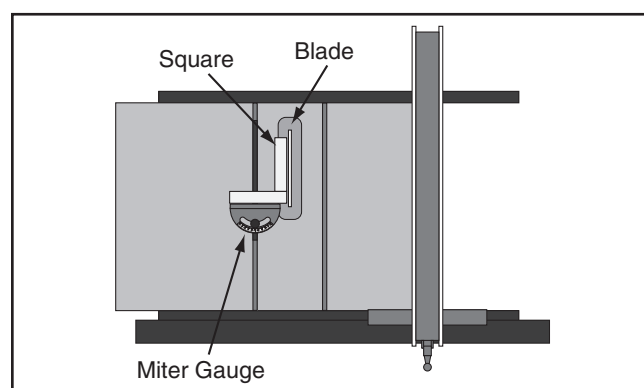

Figure 129. Miter body square to blade.
4. Place square evenly against miter body and blade, as shown in **Figure 129**.